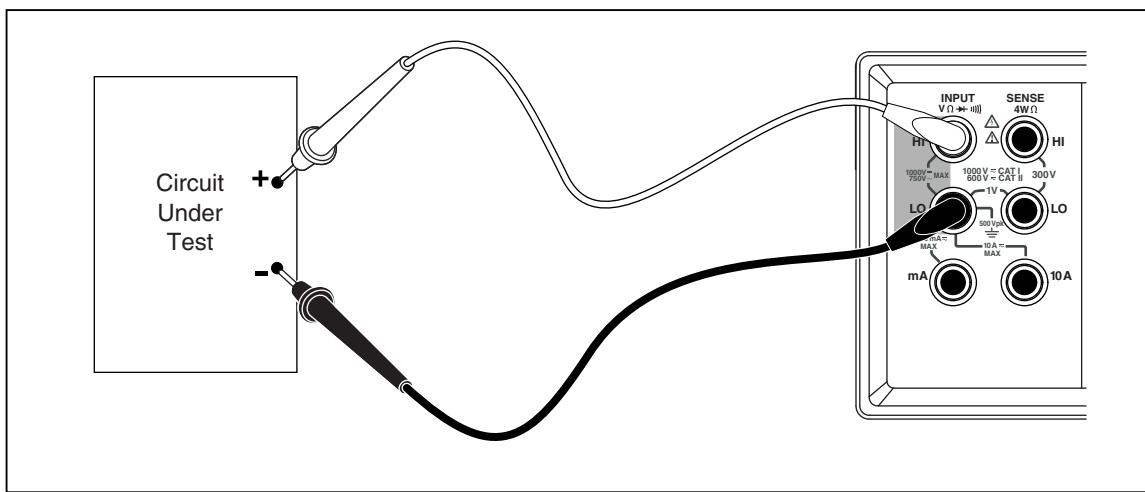

Figure 3-4. Voltage and Frequency Measurement
1. Connect test leads between the Meter and the circuit under test as shown in Figure 3-4.
Figure 3-4 shows the RS-232 Pin Out. The diagram illustrates a 9-pin D-sub connector with pins numbered 1 through 9. Pin 1 is the top center pin, and Pin 9 is the bottom center pin. The table below provides a detailed pin description.